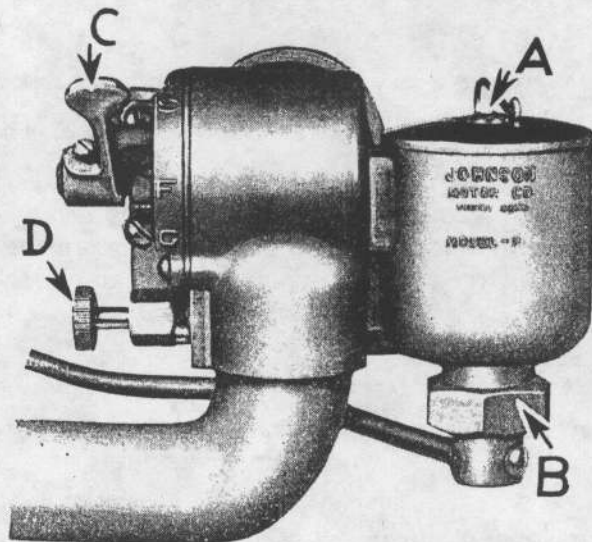

Fig. 9. Front view of carburetor showing float pin, settling basin, gas throttle and needle valve.
1. Push down on the float pin (A, Fig. 9) and hold it until the gasoline begins to overflow.
2. Open the needle valve (D, Fig. 9) at least one and one-half complete turns before attempting to start the motor when it is cold. If the weather is *extremely cold*, it should be opened two complete turns or more. Correct opening of needle valve will vary slightly on certain motors, so familiarize yourself with the needle adjustment.
4. Push the throttle lever (C, Fig. 9) down as far as it will go. This is in "choke" position.
**CLEANING CARBURETOR:** Should the motor stop firing suddenly or fire irregularly while running, note the position of the float pin in the carburetor (A, Fig. 9). If the pin is down, it indicates that either the gasoline tank is empty or sufficient gasoline is not reaching the carburetor. This is probably due to the presence of dirt or water in the screen or gasoline line.
Keep the carburetor clean, and above all keep dirt and water out of the gasoline tank. It is advisable to remove the strainer and also the settling basin on bottom of carburetor (B, Fig. 9) to clean thoroughly, at the same time rinsing out the gasoline tank line and carburetor with clean gasoline. Be certain that gasket is in place when replacing nut on bottom of carburetor.